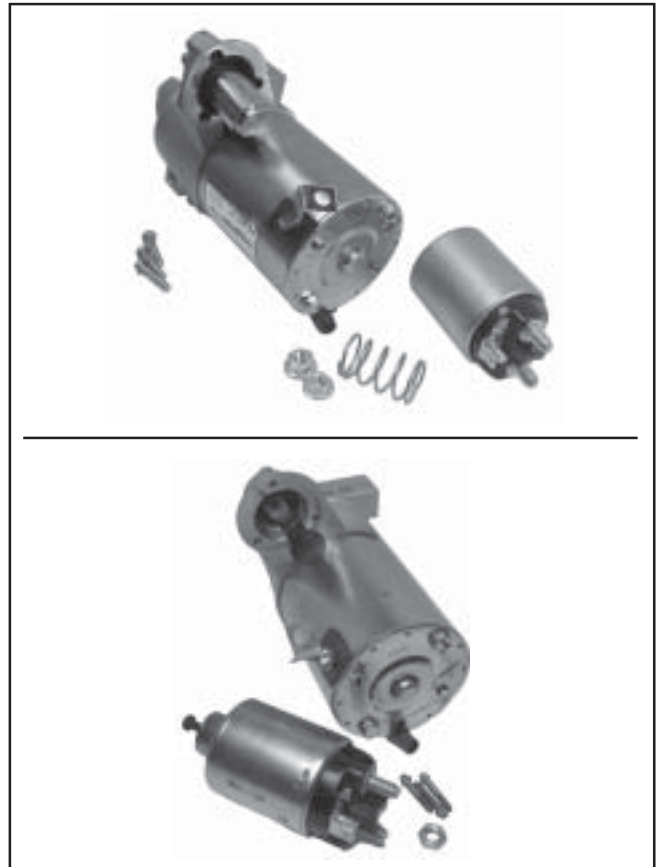

Figure 8-46. Solenoid Removed from Starter.
3. If the solenoid was mounted with Phillips head screws, separate the solenoid and plunger spring from the drive end cap. If the solenoid was mounted with external Torx head screws, the plunger is part of the solenoid, unhook the plunger pin from the drive lever. Remove the gasket from the recess in the housing. See Figures 8-46 and 8-47.